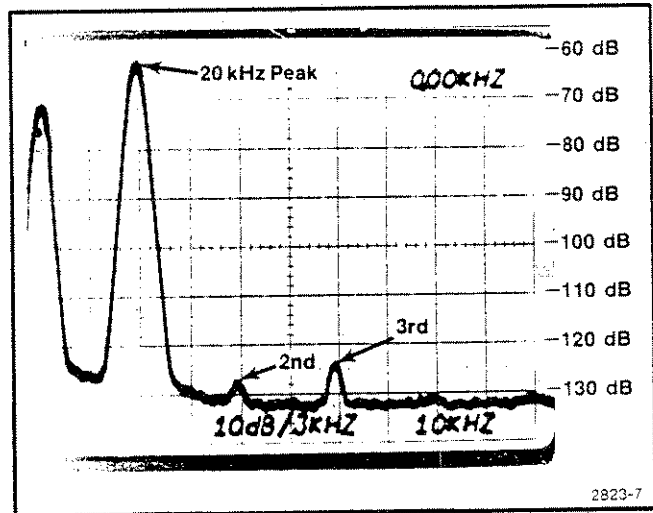

Fig. 4-4. 20 kHz harmonic distortion display.
- o. Adjust the 7L5 reference level control to position the 20 kHz peak on the top horizontal graticule line. This line is the -60 dB reference level (see Fig. 4-4).
- p. Set the calibration fixture Mode to Notch (in) and Atten to 0 dB (out). Adjust the SG 505 FREQ VERNIER control and the two calibration fixture Adjust For Null controls to position the 20 kHz peak below the top horizontal graticule line (see Fig. 4-4).
- q. Note the 2nd, 3rd, 4th, and 5th harmonics on the waveform, or as many of these harmonics as are visible. See Fig. 4-4 and compute the thd using the formula in step 9 part h.
t. Repeat step 9 parts n through q, except position the 50 kHz peak (2nd peak) of the waveform (see Fig. 4-4).
w. Repeat step 9 parts n through q, except position the 100 kHz peak (2nd peak) of the waveform. The waveform is similar to that in Fig. 4-4.